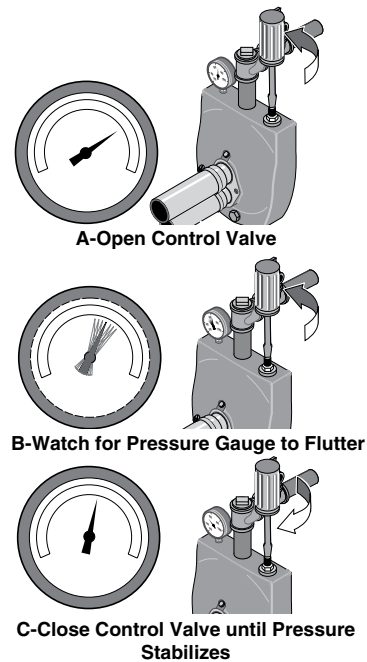

Figure 14: Set Control Valve
Step 5. When pressure has built up and stabilized at about 50 PSI, slowly open the control valve (see Figure 14) and let the pressure drop until the pressure gauge needle starts to flutter. When the needle flutters, close the valve just enough to stop the flutter (see Figure 14). Your pump is now operating at its most efficient point.